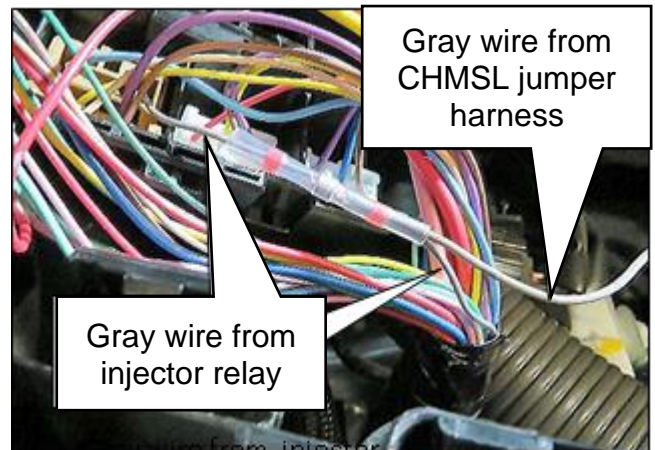

Figure 23
18. Twist together the gray wire from the CHMSL jumper harness and the gray wire from the injector relay connector and slide on a solder sleeve, as shown in Figure 23.
19. Insert the other end of the gray wire, from the injector relay connector, into the solder sleeve (Figure 23), and then using a flameless heat gun, special tool J-46538, heat the solder sleeve until the solder has been fully melted into the wires, as shown in Figure 24.